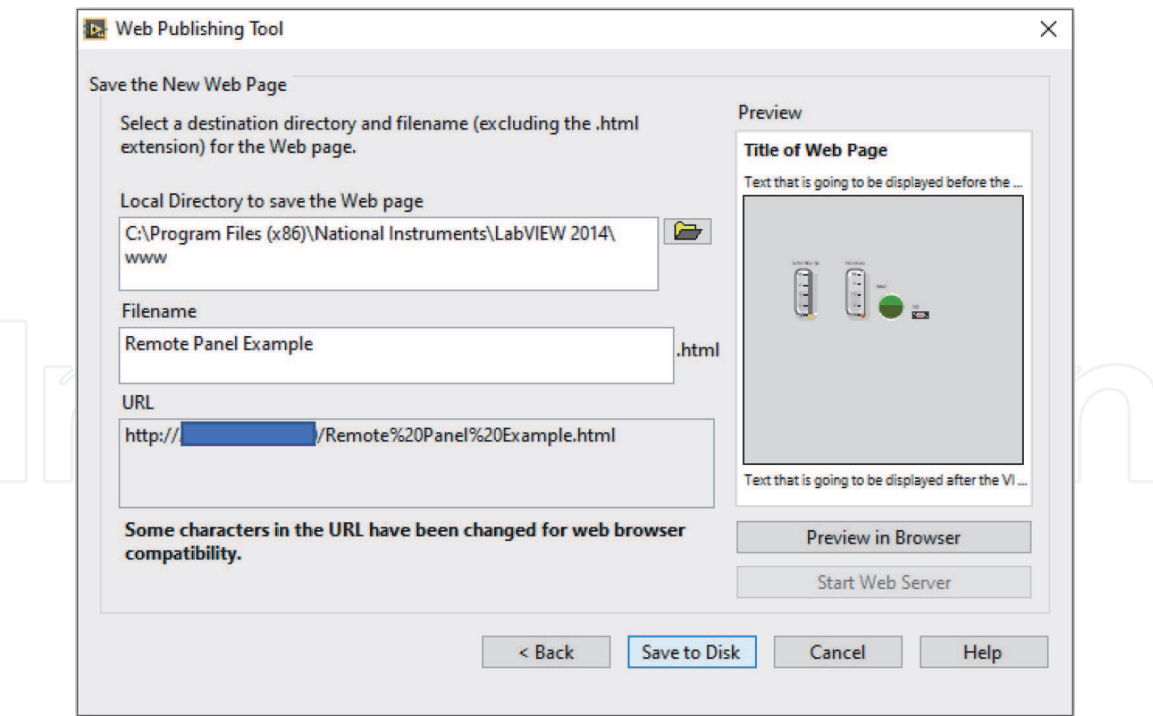

Figure 25.
10. Under the **Save the New Web Page** section, select where to save the HTML file and choose the file name and press **Save to Disk** button (Figure 25).